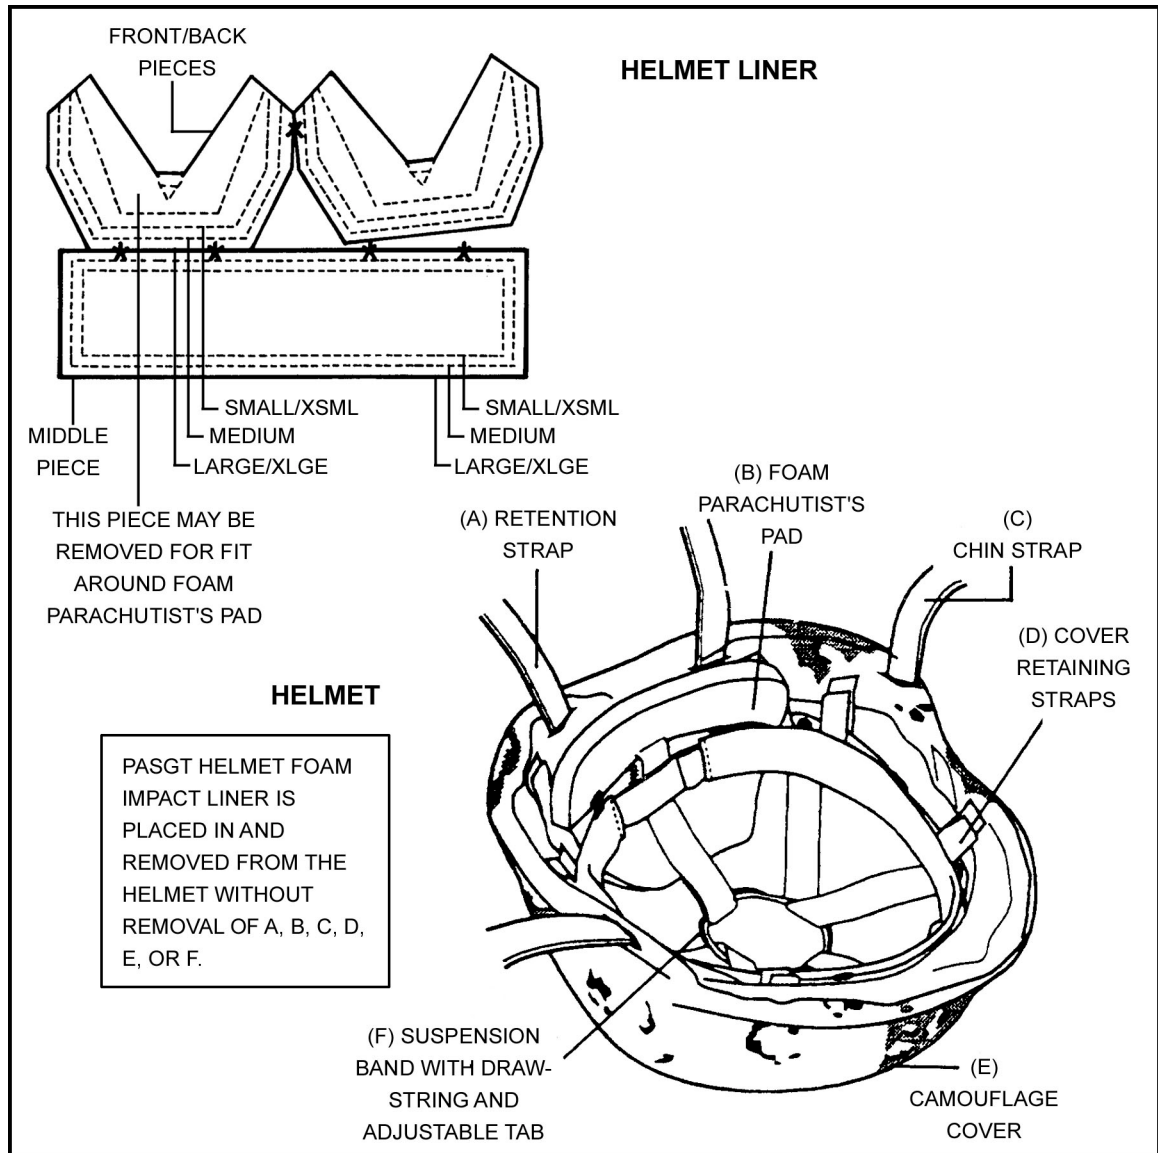

Figure 2-9. PASGT helmet foam PIL.
- (1) Separate the three portions of the foam PIL.
- (2) Size the PIL at the perforations according to your helmet size (Figure 2-9).